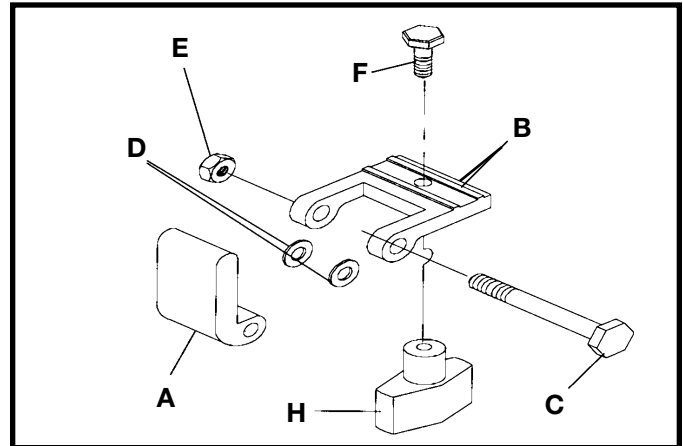

Fig. 64
1. The Unifence Flip Stop, Fig. 64, can be easily assembled by inserting flip stop (A) into fence slide stop (B) which is held in place by inserting 1/4-20 x 2" hex head bolt (C), fiber washers (D) and tightening hex nut (E). Make sure fiber washers are placed on both sides of flip stop (A) when assembled. Do not over tighten hex nut (E). The flip stop must fit snugly but move freely.